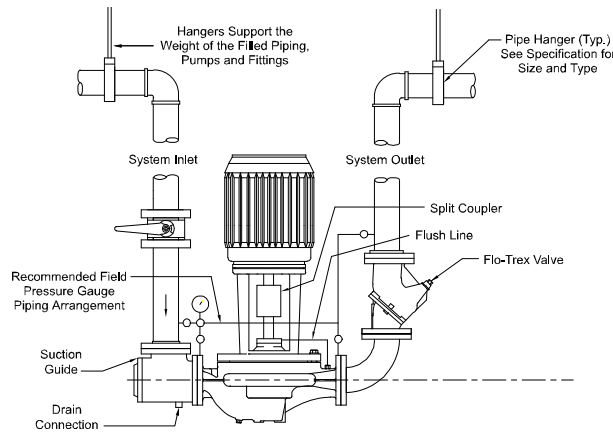

Fig. 2.3 Discharge elbow for minimum footprint
- 2.3 Should additional space saving be required the discharge spool piece and Flo-Trex valve may be replaced by a long-radius elbow and the Flo-Trex valve field converted to a straight-through valve and installed in the vertical discharge pipe. (Fig 2.3)